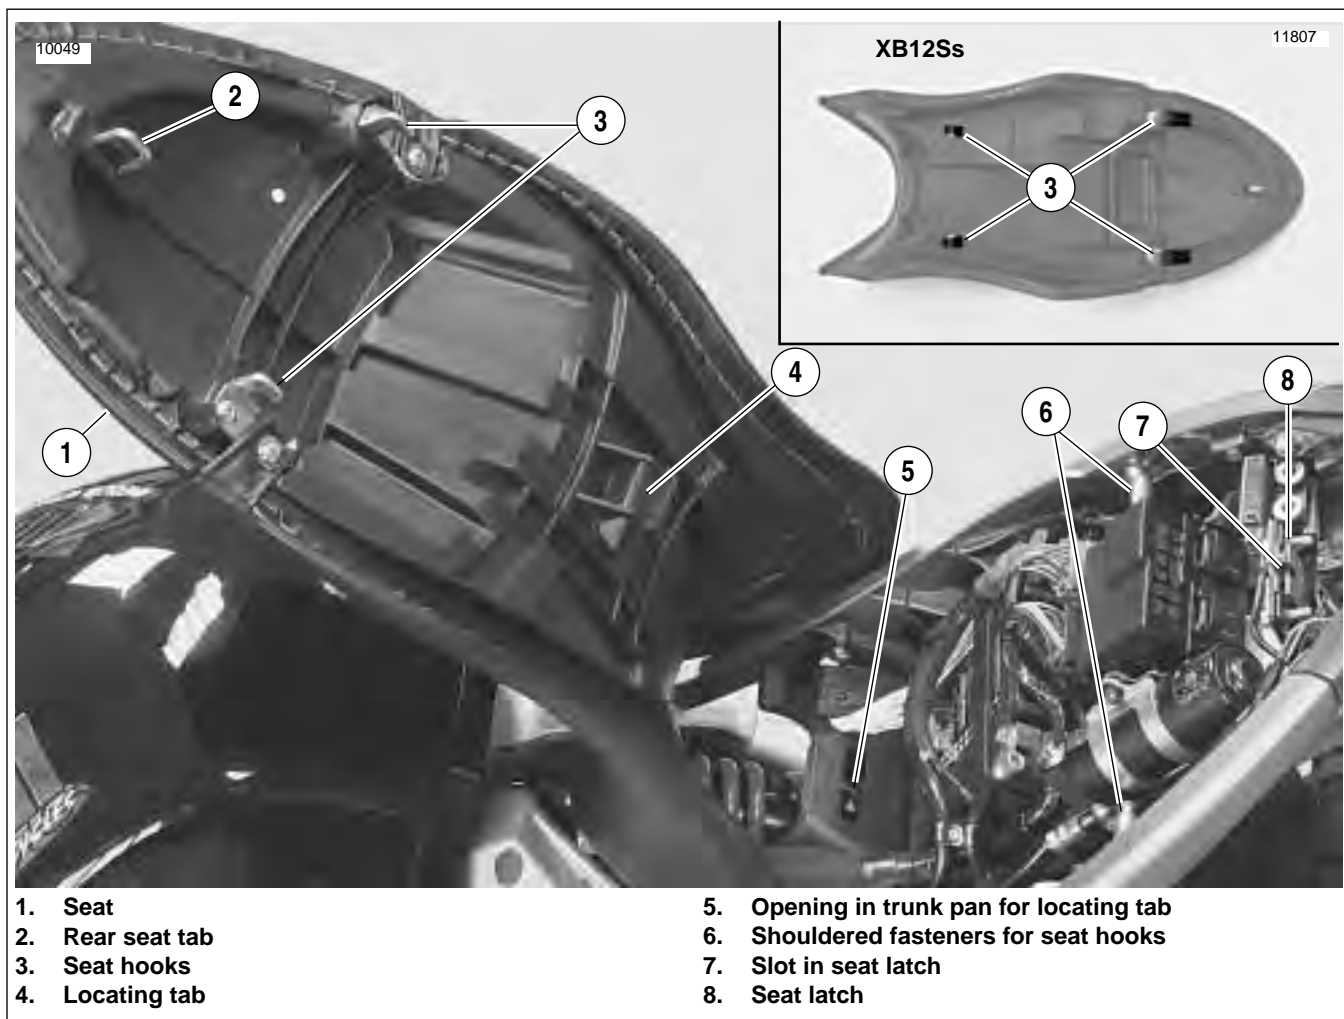

Figure 2-127. Seat and Attachment (Inset XB12Ss seat)
See Figure 2-127. The seat anchors in three places on the vehicle. The first is where the locating tab (4) on the seat inserts into the opening on the trunk pan (5). The second is the pair of seats hooks (3) that slide onto the shouldered fasteners (6) located in the left and right tail sections. The last is the rear seat tab (2) which fits into the slot (7) on the seat latch (8).
1. See Figure 2-127. Insert ignition key into seat lock located on left side of motorcycle below seat.
3. Lift and remove seat (1).